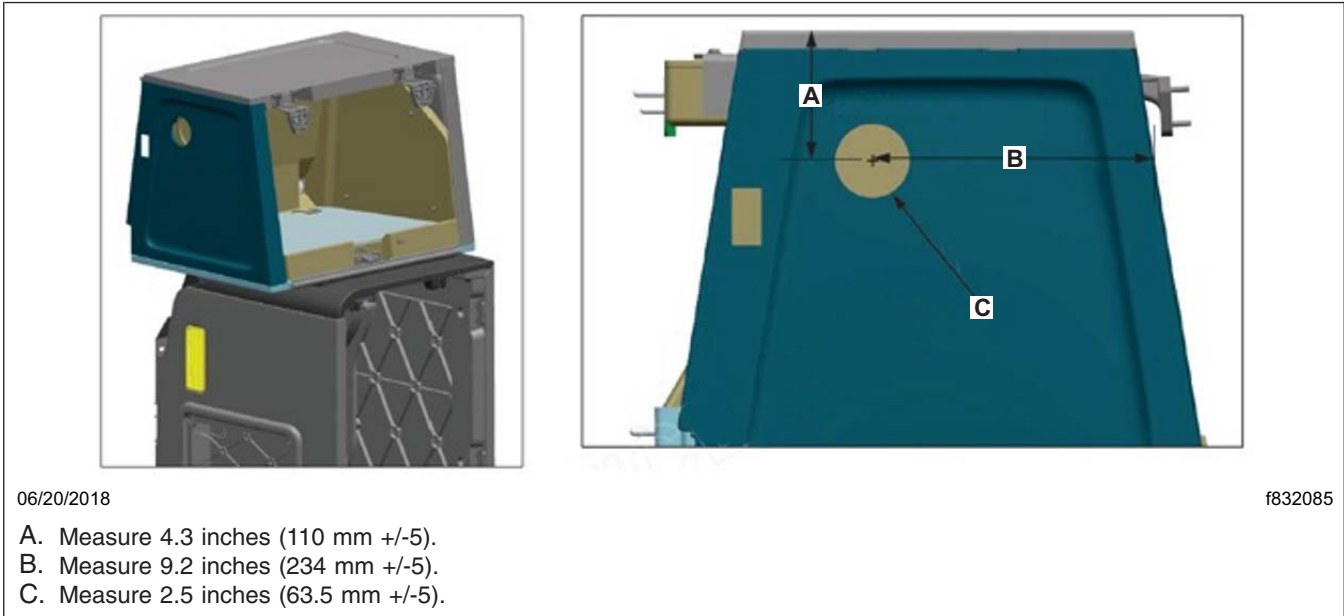

Fig. 8, Drilling the Hole for the Louver
7. Measure and locate the mounting hole for the louver (Item B), then drill through the outside panel of the upper cabinet using a 2-9/16 hole saw. See **Fig. 8** .